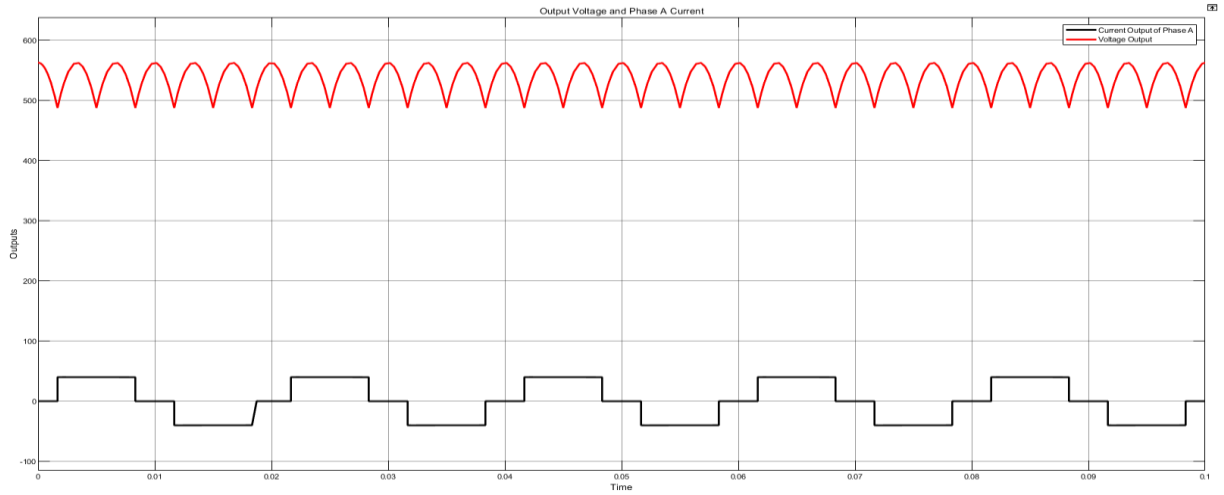

Figure 17: Phase A current and output voltages
B) We can calculate average voltage with the calculating area of voltage wave as we see in figure 17